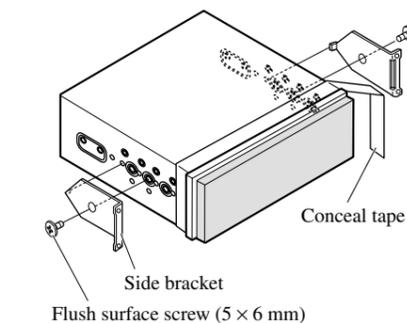

Fig. 12
1. **Decide the position of the side brackets. (Fig. 12)**